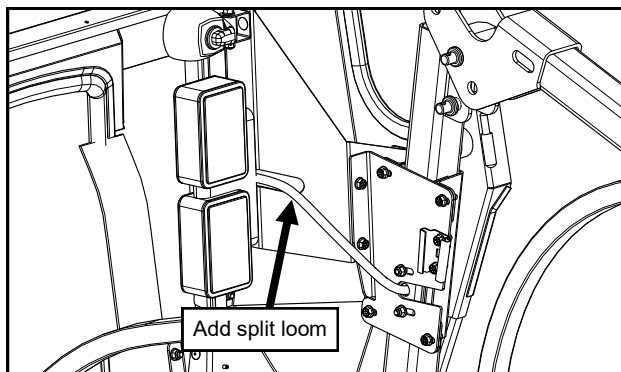

Fig. 17.2 (Assemble OEM Side Lights to Cab)
- 17.2** Cut the supplied longer, smaller segment of split loom approximately in half and wrap the exposed rear light wires with the split loom. See Figure 17.2